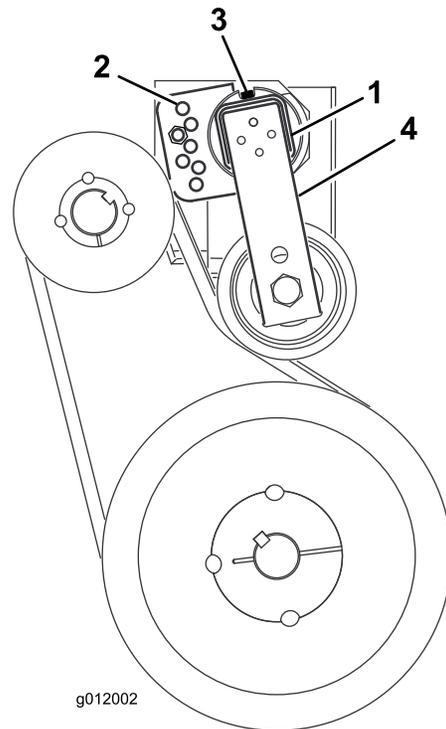

Figure 14
3. Remove capscrew and nut securing the tensioner guide to the blower frame (Figure 14).
4. On the rear of the frame, loosen the capscrew securing the belt tensioner to frame (Figure 14).
6. Insert the capscrew into the aligned guide holes and secure it with the nut (Figure 14).